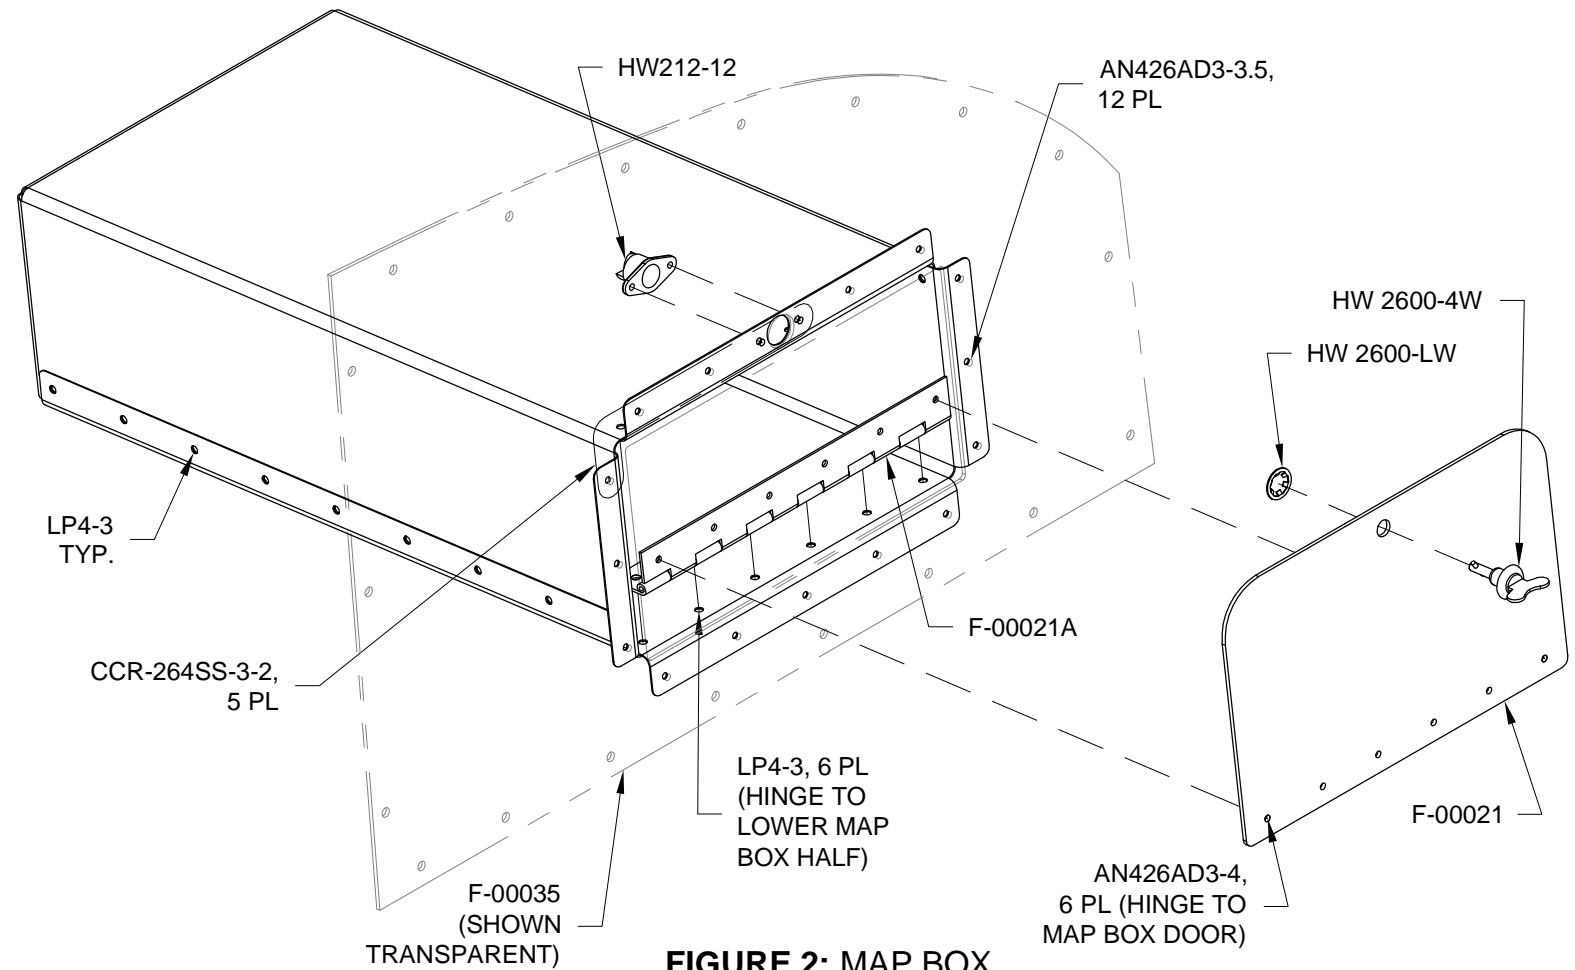

FIGURE 2: MAP BOX ASSEMBLY
Step 7: Rivet and blind rivet the Map Box Assembly to the F-00035 SkyView Inst Panel Right Mapbox as shown in Figure 2.
Rivet the HW212-12 Camloc Receptacle to the Inst Panel Right Assembly as shown in Figure 2.
Step 8: Blind rivet the F-00021A Map Box Hinge to the lower Map Box Half as shown in Figure 2.